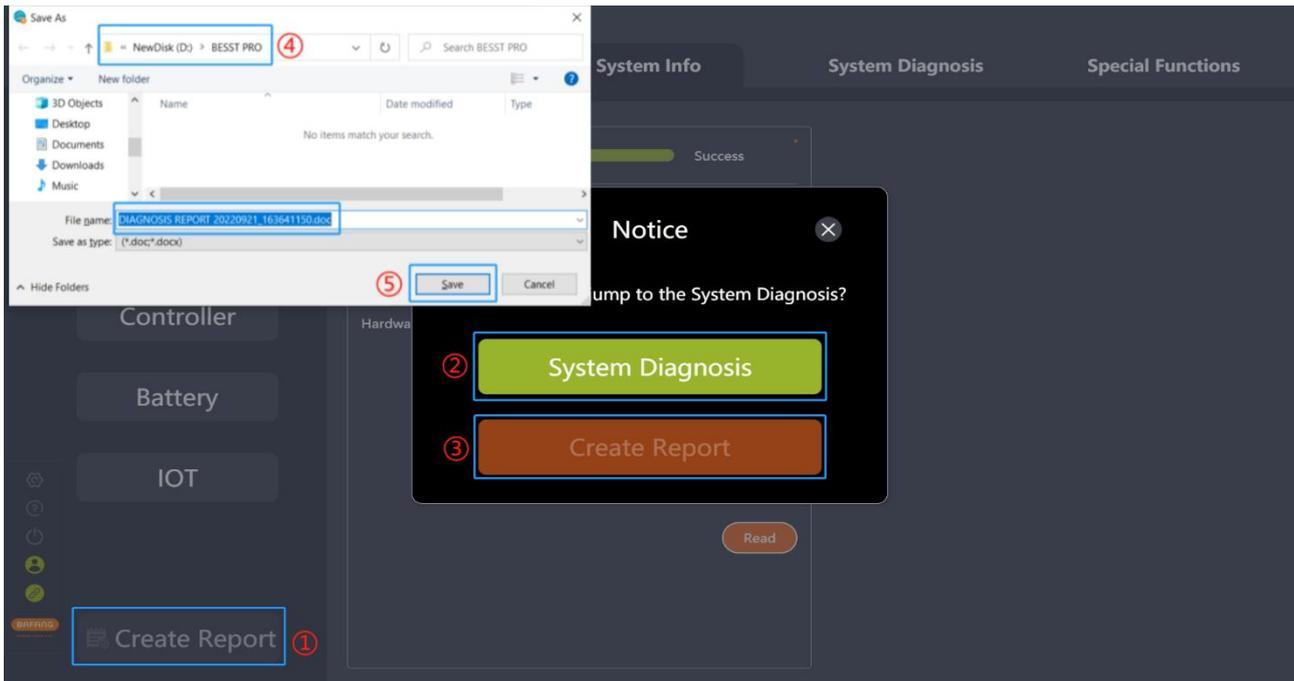

Fig. 6-5 System info interface reports creation
- (1) Click "Create Report", and a pop-up window will prompt "Do you want to jump to System Diagnosis?" (Fig.6-5).
- (2) For system diagnosis, click "System Diagnosis" to jump to it.
- (3) Click "Create Report".
- (4) Select the local save path.
- (5) Click "Save" to generate a PDF report.